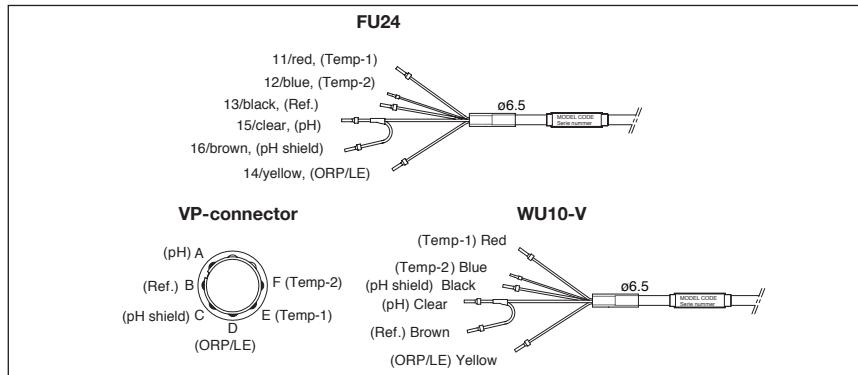

Figure 4. Cable marking and pin locations
The FU24 sensor is provided with a fixed cable or Variopin (VP) connector. The connections of both the wire as the VP connector are given in Figure 4.